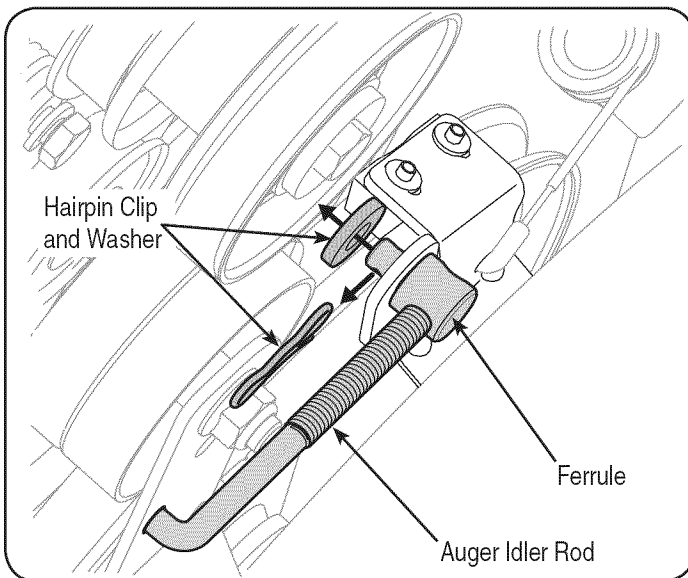

Figure 31
- Remove the bow-tie clip and flat washer from the ferrule in order to disconnect the auger idler rod from the brake bracket assembly. See Figure 31.